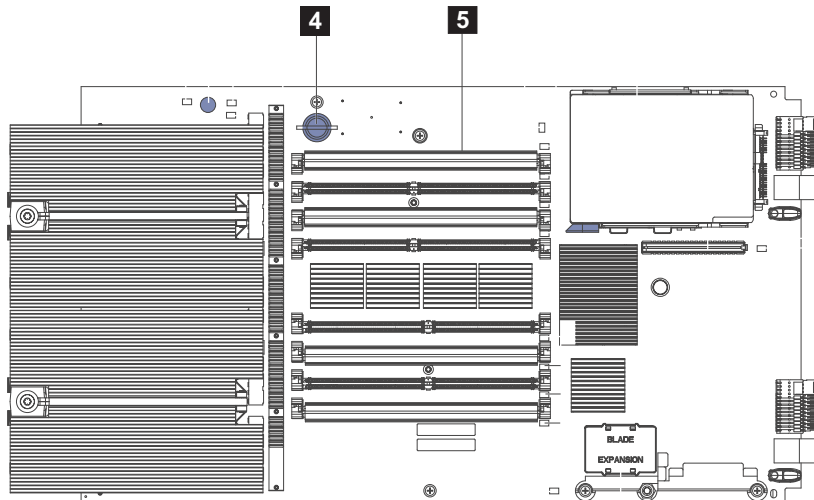

Figure 18. Expansion blade DIMM 1 slot and the expansion blade retention screw
8. To access the expansion blade retention thumb screw (shown by **4** in Figure 18), remove the DIMM in DIMM slot 1 ( **5** ), as described in “Removing a memory module” on page 267.